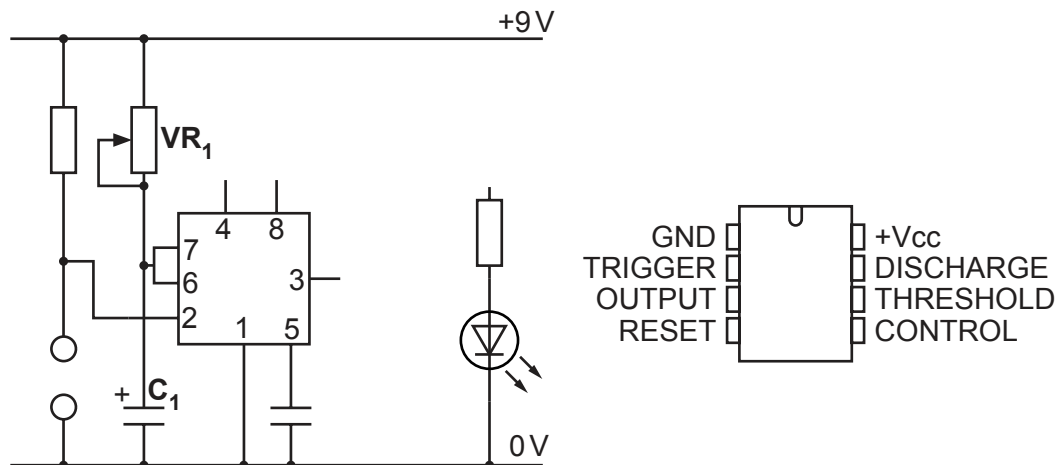

Fig. 12.2
- (ii) Fig. 12.2 shows an incomplete circuit diagram for the meter with the pinout diagram for a 555 IC.
- (iii) The timing components in Fig. 12.2 are labelled VR_1 and C_1 .